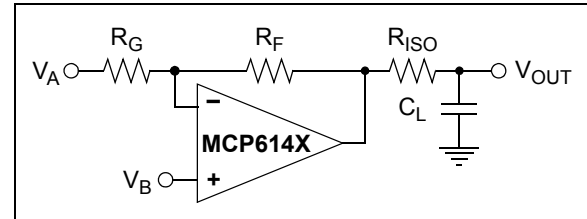

**FIGURE 4-5:** Examples of Unstable Circuits for the MCP6141/2/3/4 Family.
Figure 4-5 shows three example circuits that are unstable when used with the MCP6141/2/3/4 family. The unity gain buffer and low gain amplifier (non-inverting or inverting) are at gains that are too low for stability (see Equation 4-2). The Miller integrator's capacitor makes it reach unity gain at high frequencies, causing instability.
**Note:** The three circuits shown in Figure 4-5 are *not* to be used with the MCP6141/2/3/4 op amps. They are included for illustrative purposes only.